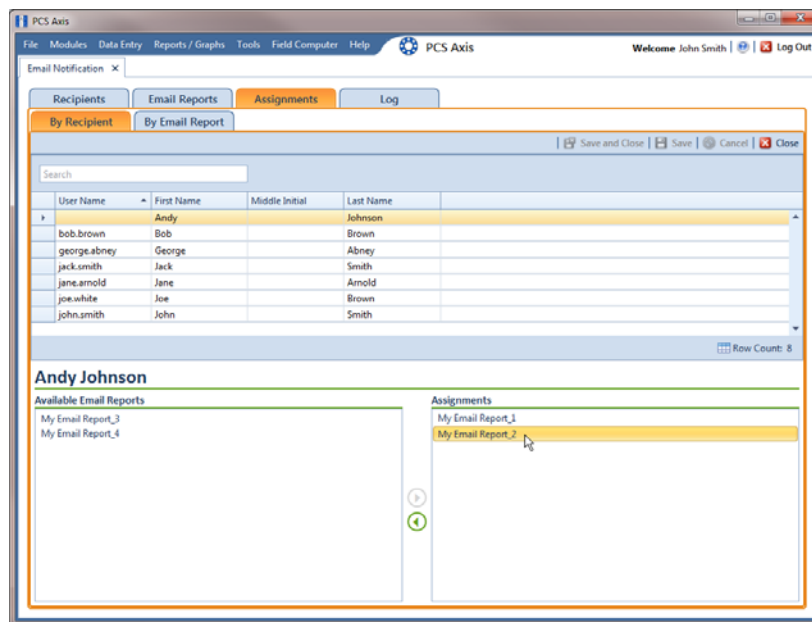

Figure 11-17. Email Notification Assignments By Recipient
- a Click **Tools > Email Notification > Assignments** tab. Then click  **Add/Remove Assignments** to open the *Email Notification Assignments* window (Figure 11-17).
- 2) Double-click a report in the *Assignments* pane to move it to the *Available Email Reports* pane. Then click  **Save**. The recipient receives email notifications only for those reports listed in the *Assignments* pane (Figure 11-17).